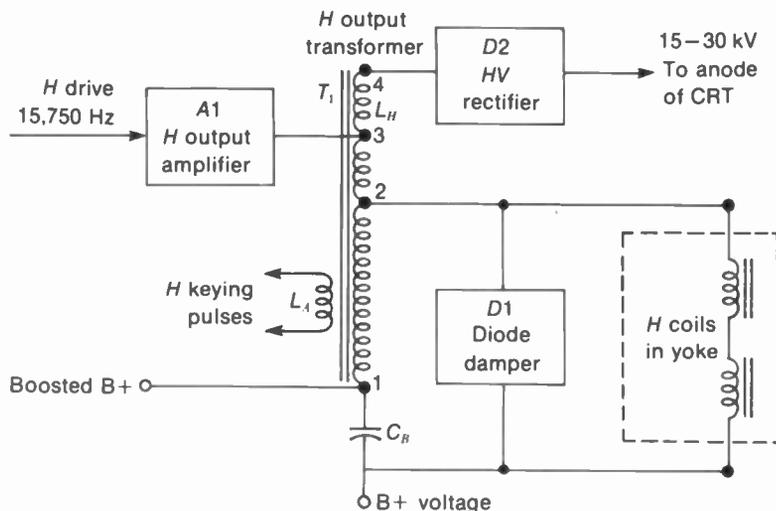
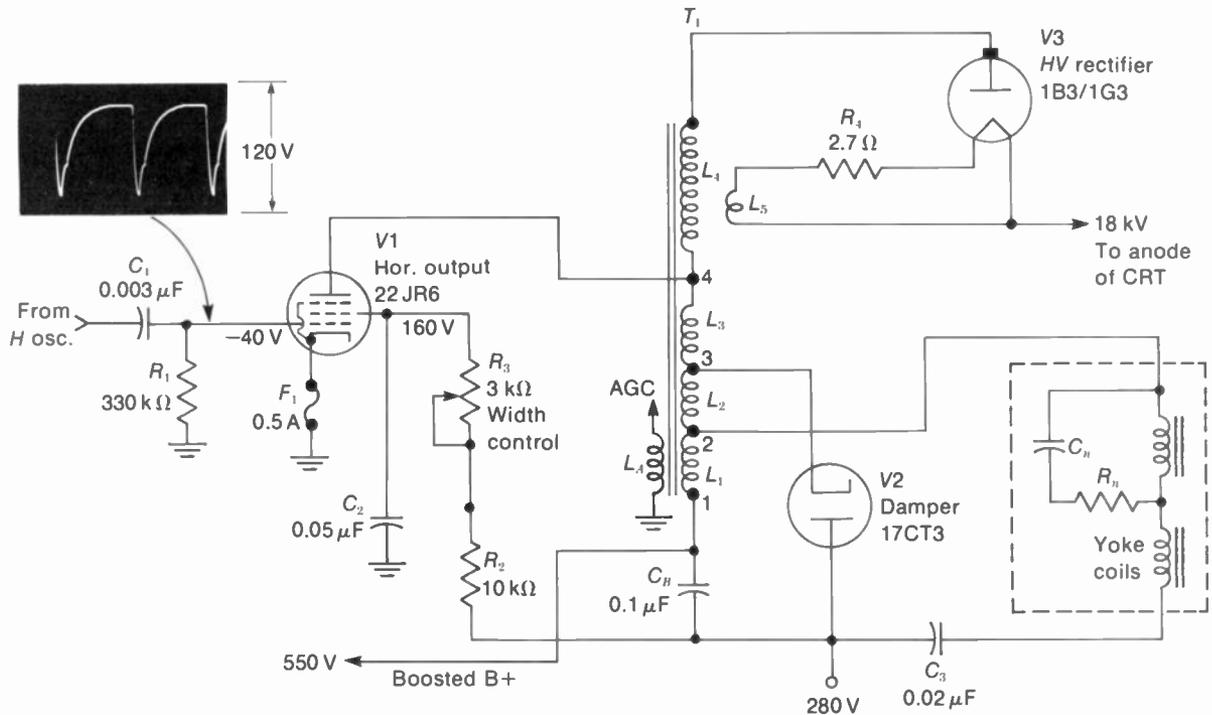
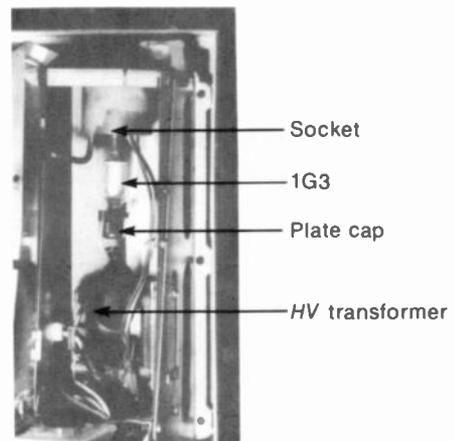

FIGURE 22-1 BLOCK DIAGRAM OF HORIZONTAL OUTPUT CIRCUIT.
FIGURE 22-2 SCHEMATIC DIAGRAM OF HORIZONTAL OUTPUT CIRCUIT USING TUBES FOR AMPLIFIER, DAMPER, AND HV RECTIFIER.
FIGURE 22-3 HV RECTIFIER AT TOP AND FLYBACK TRANSFORMER AT BOTTOM IN CAGE ON RECEIVER CHASSIS. THE 1G3 IS MOUNTED UPSIDE DOWN.
As shown in Fig. 22-1, the essential stages are the amplifier, damper diode, and high-voltage rectifier, operating with the horizontal output transformer (H.O.T.). This is also called the *flyback transformer*. These stages can use either tubes or transistors and semiconductor diodes. Also, the output stage can use semiconductor switching devices, such as the SCR or gate-controlled switch.
scanning current in the yoke coils. In Fig. 22-1, the winding between terminals 3 and 1 is the primary on the autotransformer  $T_1$ . The winding between 2 and 1 is the secondary for voltage stepdown and current stepup to the horizontal scanning coils.
**Boosted B+ voltage.** When the damper conducts, its current charges  $C_H$  in Fig. 22-1. This capacitor is in series with  $D1$  and the supply voltage. As a result, the voltage across  $C_H$  becomes higher than B+ by the amount of deflection voltage rectified by the damper. As an example, 280 V for B+ can be boosted to 550 V across  $C_H$ . Or, 140 V for B+ can be boosted to 300 V. This boosted B+ is the plate supply voltage for the horizontal amplifier tube, which is the reason why the damper must be operating for there to be horizontal output. In fact, all the tubes in the vertical and horizontal deflection circuits generally use boosted B+ for higher plate voltage.
**Flyback high voltage.** The high-voltage pulse produced across the primary of the horizontal output transformer is stepped up, rectified, and filtered to provide anode voltage of 15 to 30 kV for the picture tube. In Fig. 22-1, the turns of  $L_{H1}$  between terminals 3 and 4 are the high-voltage winding for  $D2$ . It should be noted that the high-voltage rectifier is the only stage conducting in the horizontal output circuit during retrace time.
**Horizontal keying pulses.** The horizontal output transformer usually has one or more auxiliary windings, indicated by  $L_1$  in Fig. 22-1, to supply flyback pulses at the horizontal rate. These pulses are used for the AGC circuit, retrace blanking, horizontal AFC stage, and in the color circuits.
The block diagram in Fig. 22-1 corresponds to the schematic in Fig. 22-2, using tubes in the horizontal output circuit.  $V1$  is the amplifier, transformer-coupled at terminal 2 to the deflection coils in the yoke.  $V2$  is the diode damper. It is tapped higher at terminal 3 in order to provide more boosted B+ voltage.  $V3$  is the high-voltage rectifier, with its filament winding  $L_5$  on  $T_1$ . The auxiliary winding  $L_1$  supplies horizontal flyback pulses for the AGC stage. The high-voltage rectifier and flyback transformer are usually in a metal cage on the receiver chassis (Fig. 22-3).
**Circuit components.** In Fig. 22-2,  $C_1$  and  $R_1$  couple the sawtooth voltage from the horizontal oscillator to the output tube. The grid-driving voltage is 120 V p-p. Grid-leak bias of  $-40$  V is developed because grid current flows when the positive peak of input voltage drives the grid positive. In fact, measuring this bias with a dc voltmeter is a good way to see if the output tube has grid drive from the oscillator. Normal dc bias means normal ac drive. With less drive, the bias is reduced. Zero bias means no drive. The output tube should not be operated without grid
**Width control.** Varying the screen-grid voltage of the output tube, as in Fig. 22-2, is a common method. Instead of the variable resistance, though, variable taps on a voltage divider can be used. Another method uses a width coil in parallel with part of the secondary winding of the output transformer. A typical coil is shown in Fig. 22-14.